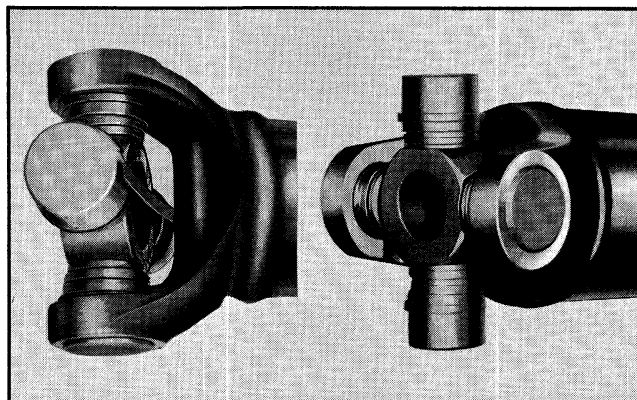

Fig. 4-5 Bearings Held in Place By Retainer Strap
2. Turn down lock plates and remove U-bolts which hold rear universal joint to companion flange. Use a heavy rubber band or tape to hold bearings onto journal to prevent loss of bearing rollers when joint is disconnected if retainer strap has been removed (Fig. 4-5).
Use a heavy rubber band or tape to hold bearings onto journal to prevent loss of bearing rollers when joint is disconnected if retainer strap has been removed (Fig. 4-5).
2. Disconnect rear universal joint from companion flange by removing two "U" bolts. Use a heavy rubber band or tape to hold bearings onto journal to prevent loss of bearing rollers when joint is disconnected if retainer strap has been removed (Fig. 4-5). Support propeller shaft out of the way.